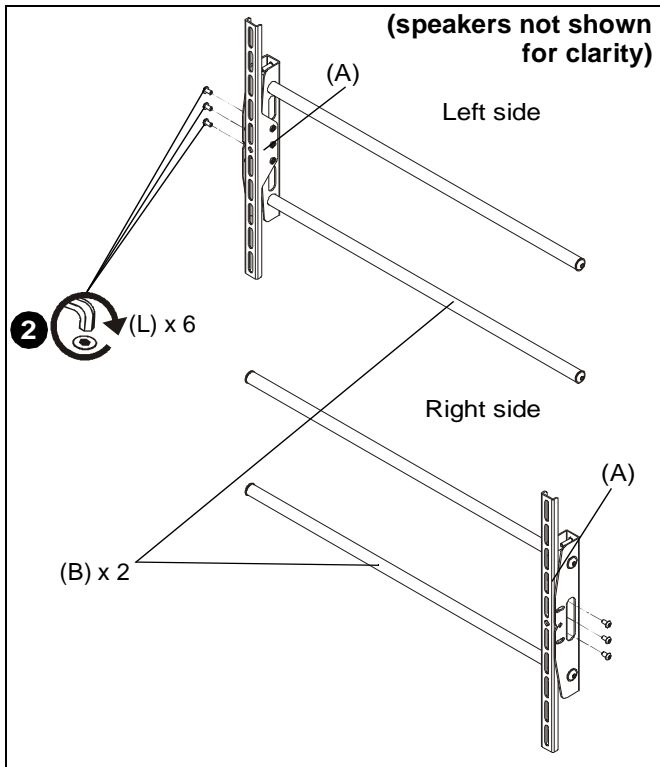

Figure 2
2. Use six #10-24 x 3/8" button head cap screws (L) to secure two speaker brackets (A) to two rail extensions (B). (See Figure 2)